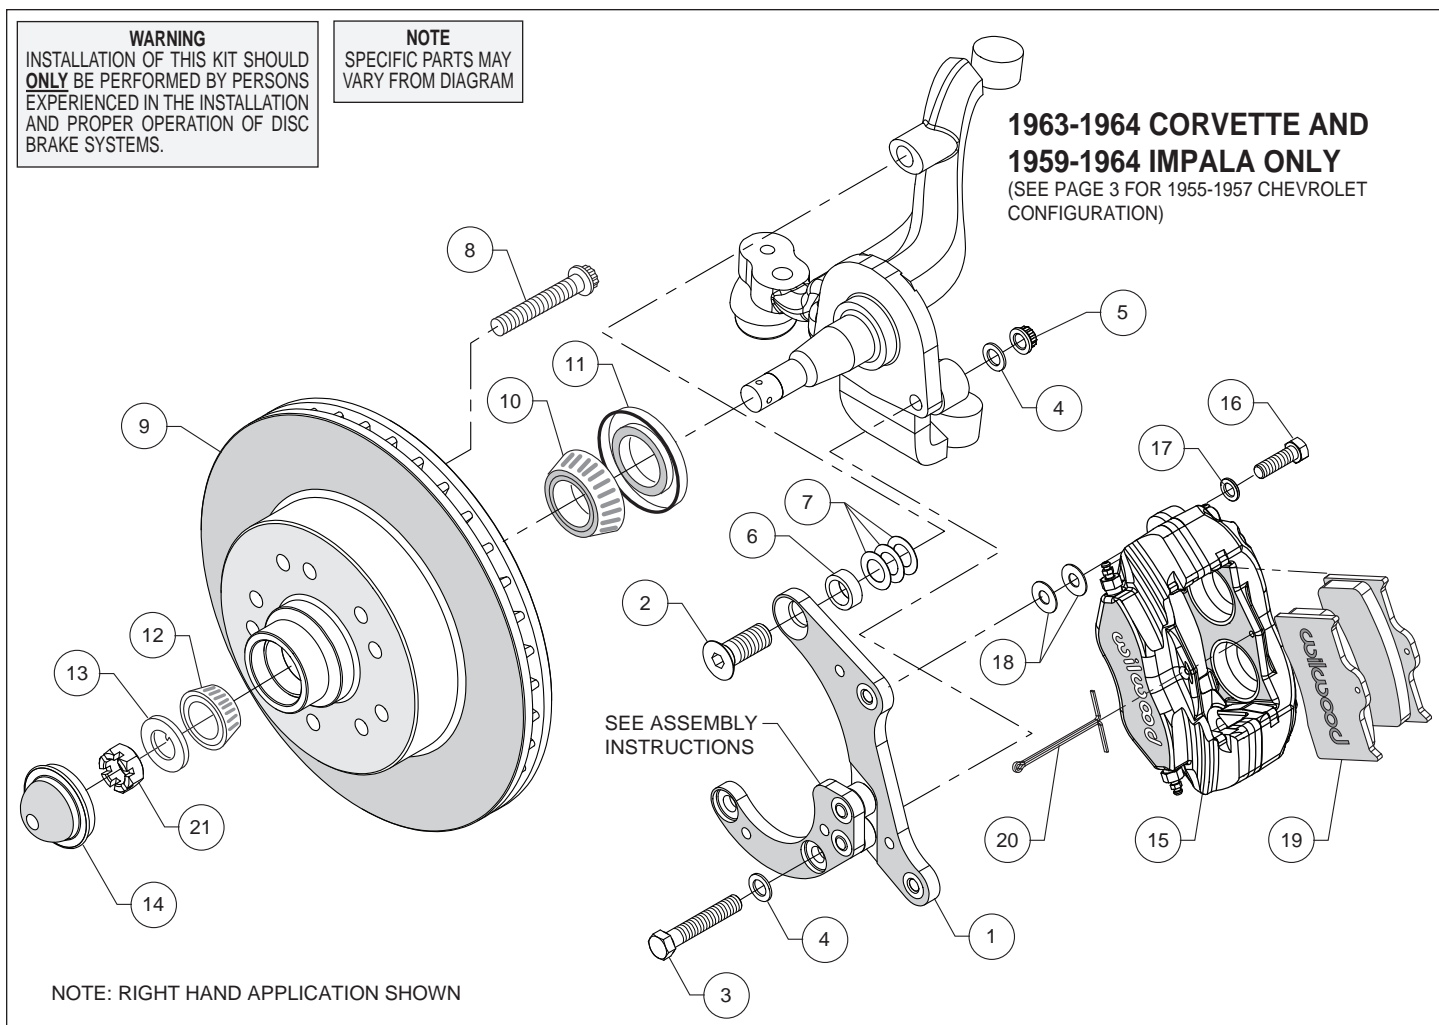
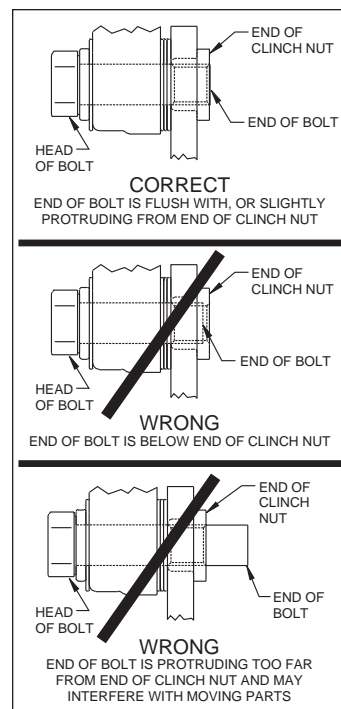

Figure 1. Typical Installation Configuration, 1963-1964 Corvette, 1959-1964 Impala/Belair
Figure 4. Clinch Nut Engagement Diagram
Assembly Instructions (numbers in parenthesis refer to the parts list and Figures 1 and 2 on the preceding pages): **CAUTION: All mounting bolts must fully engage clinch nuts.** Be sure to check that all bolts are either flush or protruding through flanged side of clinch nut after shimming, Figure 4.
- Orient the bracket as shown in Figure 1 and Photo 1, and install using bolts (2) in the upper hole. Place a .345" thick spacer (6) positioned between the bracket and spindle, as shown in Figure 1. Initially use three .015" shims (7) on the upper bolt between the bracket and spindle, Figure 1. Install bolts (3), washers (4) and nuts (5) in the lower holes, Figure 1. Temporarily tighten the mounting bolts, followed by the two bracket-to-bracket bolts. **NOTE: The bracket must fit squarely against the mounting points on the spindle.** Inspect for interference from casting irregularities, machining ridges, burrs, etc. Later, after the bracket alignment has been checked, the bolts will be secured using red *Loctite*® 271.
- Pack the large inner bearing cone (10) with high temperature disc brake bearing grease (available from your local auto parts store) and install into the backside of the hub (9), Photo 3.
- Install the grease seal (11) by pressing into the backside of the hub (9), flush with the end of the hub.
- Temporarily install the hub/rotor (9) onto the spindle using outer bearing (12), spindle washer (13) and spindle nut (21). Check that the caliper mounting bracket (1) is aligned parallel to the rotor, Photo 4. If not, adjust by adding or subtracting shims (7) on the upper bolt between bracket and spindle, Figures 1 or 2. Once the bracket alignment is correct, remove the upper bolt (2 or 2A), apply red *Loctite*® 271 to the threads and torque to 140 ft-lb. Torque lower lock nuts to 47 ft-lb. Remove one at a time the bolts that secure the two brackets to each other, apply red *Loctite*® 271 to the threads and torque to 40 ft-lb.
- Press the dust cap (14) into the hub (9), Photo 7. **NOTE:** *Do not hammer center of cap. Install using outer flange only.*
- NOTE:** *Please reference the caution statement at the beginning of the assembly instructions.* Mount the caliper (15) onto the caliper mounting bracket (1) using bolts (16) and washers (17), as shown in Figures 1 or 2. Initially place two .035" thick shims (18) on each bolt between the caliper and the bracket, Photo 8. Temporarily tighten the mounting bolts and view the rotor (9) through the top opening of the caliper. The rotor should be centered in the caliper, Photo 9. If not, adjust by adding or subtracting shims (18) between the bracket and the caliper. Always use the same amount of shims on each of the two mounting bolts. **NOTE:** *The end of each bolt must be flush with or slightly protruding from the head of the clinch nut, as shown in Figure 4.* If necessary place spare shims between washer (17) and caliper mounting ear to achieve the proper clinch nut engagement. Once the caliper alignment and clinch nut engagement are correct, remove the bolts one at a time, apply red *Loctite*® 271 to the threads, and torque to 40 ft-lb.